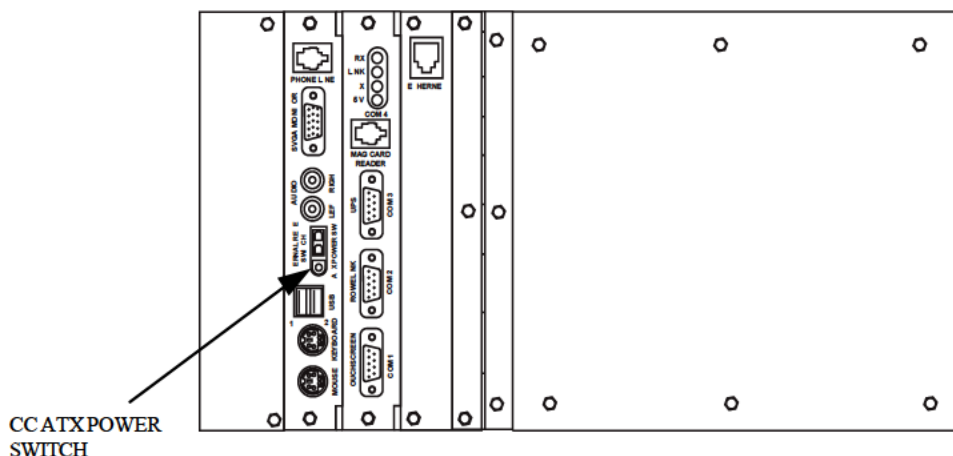

Figure 2-2
3. If the CC does not automatically start to boot up, press the CC ATX power button (see Figure 2-2) in once and release.
- If the CC does not start automatically, press the CC ATX power button (see figure 2-2) in once and release. This boots up the CC and starts the application.